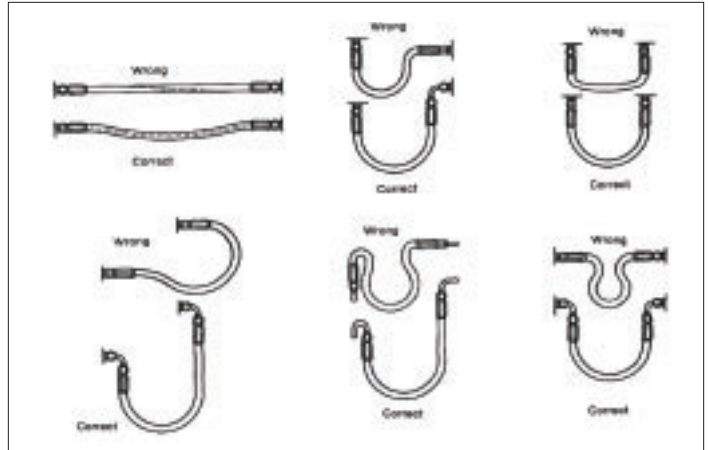

Figure 7: Hose pipe bending techniques
Use of couplings and connectors is usually required in piping and often some common misconceptions are taken into consideration (e.g., if a coupling is compatible with a hose that meets Society of Automotive Engineers (SAE) or European Norm (EN) specifications, the coupling will work with hoses that meet the specifications. This is simply not true. When making or buying an assembly, it is strongly recommended that hoses and fittings all come from the same manufacturer. That's because dimensional tolerances listed in the standards are quite broad. Hoses not manufactured with tightly controlled dimensions might still meet the standards, but may be difficult to assemble and may perform non-satisfactorily due to compression variations when crimping the coupling on to it (Figure 7).